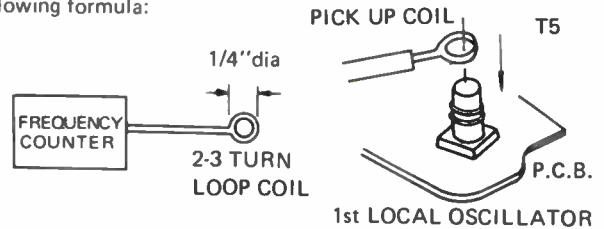

Figure 6. 1ST LOCAL OSCILLATOR
Step 2: Couple the frequency counter thru a pickup coil to oscillator coil T5. Refer to Figure 6.